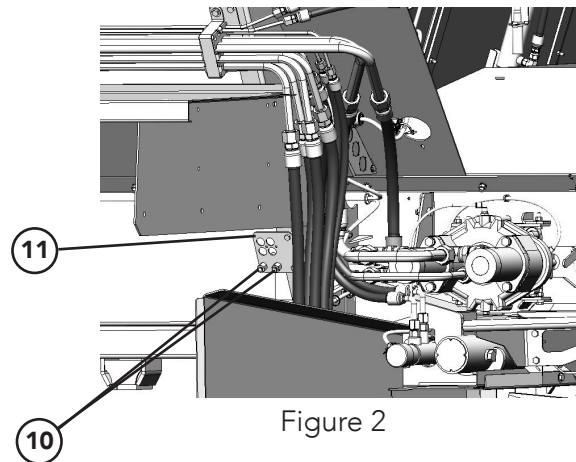

Figure 2
5. Figure 2 - Remove the Grease Lines (10) from Bracket (11).